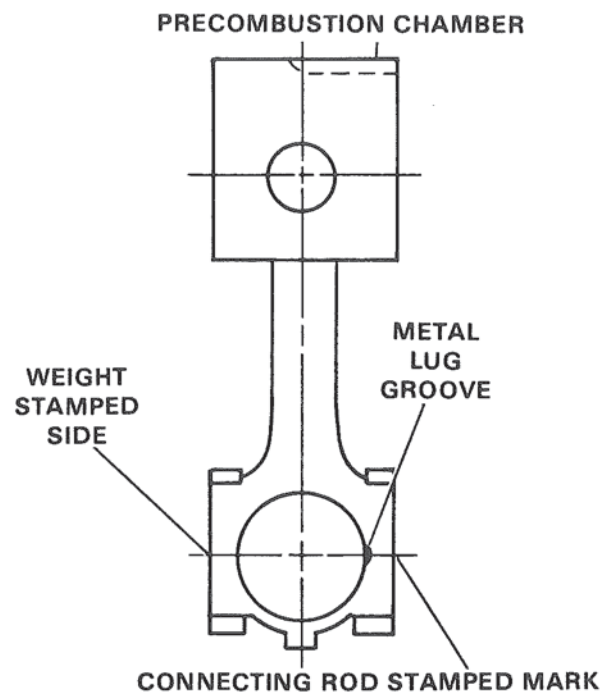

Figure 59. Proper Positions of Piston and Rod.
B. Check parts for correct position. Figure 59.